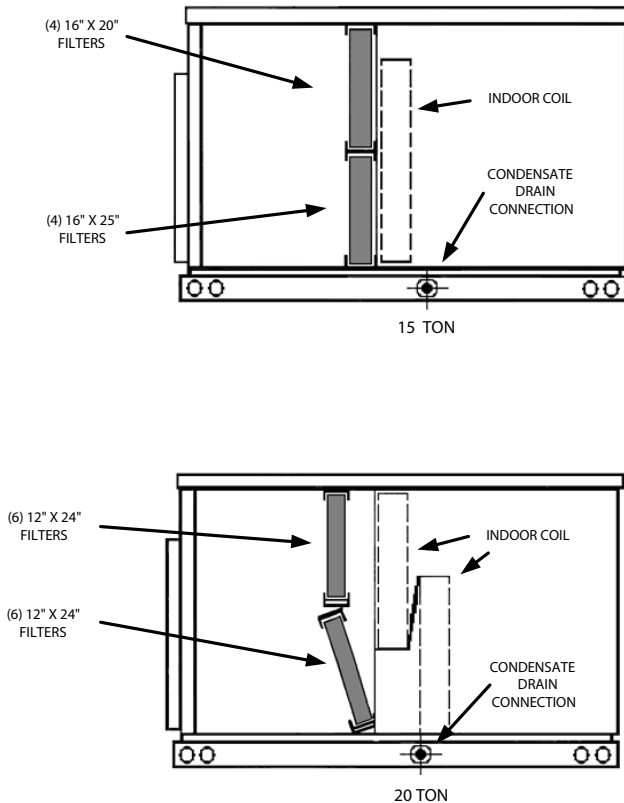

Figure 3 - End view less filter access panel 15 and 20 ton units
1. Remove the filter access panel located to the left of the condensate drain connection. See Figure 3.